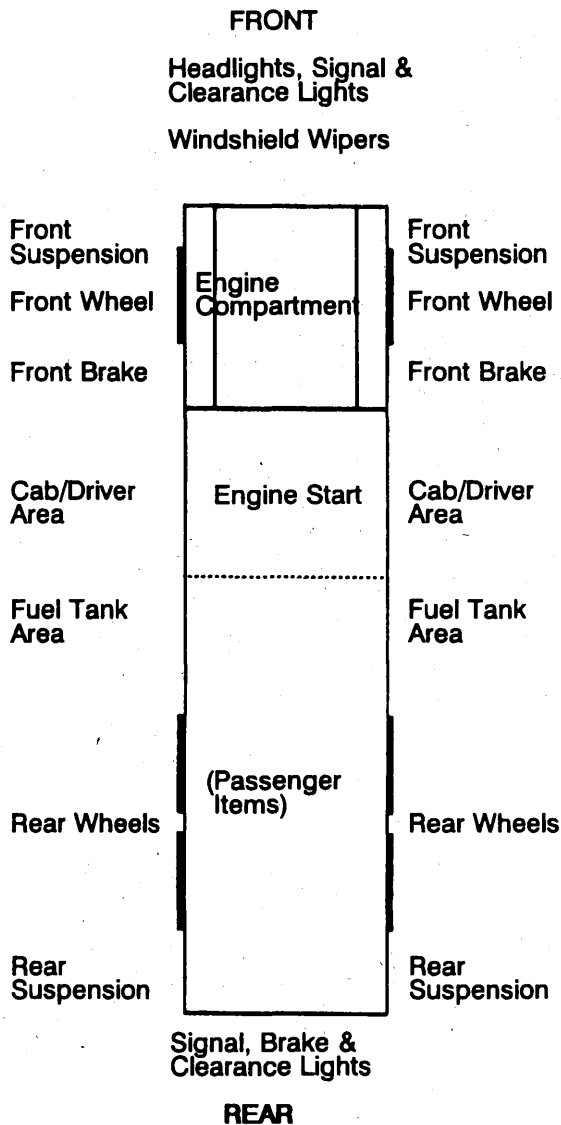

Figure 2-5. Straight Truck/School Bus
In order to obtain a CDL you will be required to pass a pre-trip vehicle inspection test. You will be tested to see if you know whether your vehicle is safe to drive. You may be asked to do a pre-trip inspection of your vehicle and explain to the examiner what you would inspect and why. Section 10 of this manual tells you what to inspect and how to inspect it. Some states allow the guides shown in Figures 2-5, 2-6, and 2-7 to be used as a memory aid when taking your test.
**Method of inspection.** You should do a pre-trip inspection the same way each time so you will learn all the steps and be less likely to forget something. The following seven-step method should be useful. Guides are shown in Figures 2-5, 2-6, and 2-7.